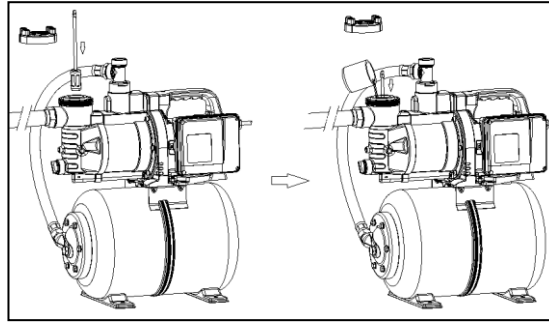

Fig.6
2. Put a min. 20 cm long screwdriver or bar in the middle of the filter and push it carefully down, to open the check valve. Fill in the water until the top, once the valve is pressed (Fig.6).